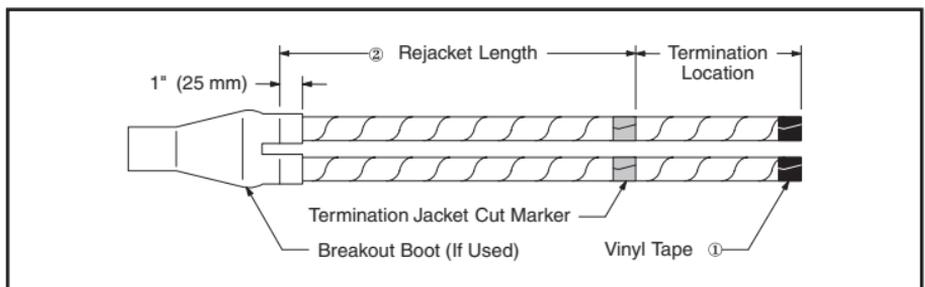

Figure 1
1. Secure copper tape shield ends with vinyl tape (①, *Figure 1*).
2. Determine required length of cable shielding to be re-jacketed (Typical ②, *Figure 1*).